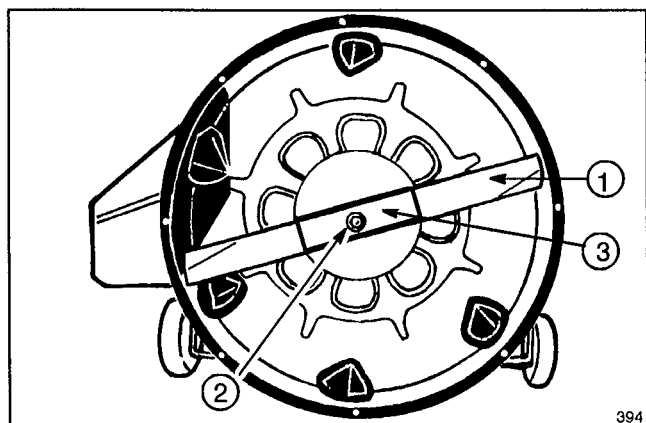

Figure 24
6. Grasp end of blade using a rag or thickly padded glove; then remove blade bolt, curved washer, blade stiffener and blade (Fig. 24).
9. In sequence, install blade, blade stiffener, curved washer and blade bolt (Fig. 24). The concave side of the curved washer must point toward the blade. Tighten blade bolt to 45-60 ft-lb (61-81 N.m).
6. Since rider is tipped on end, check condition of blade (Fig. 24).